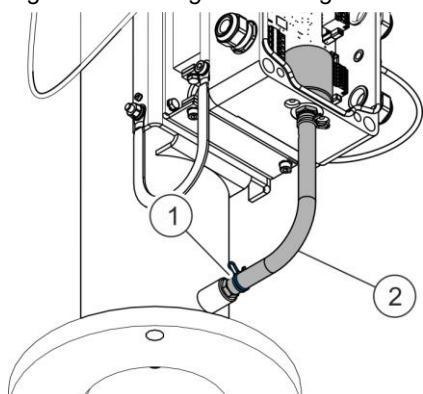

Fig. 75: Removing clip on pressure hose
3. Remove the clip (Fig. 75/1) below on the pressure hose.
4. Remove the pressure hose (Fig. 75/2).